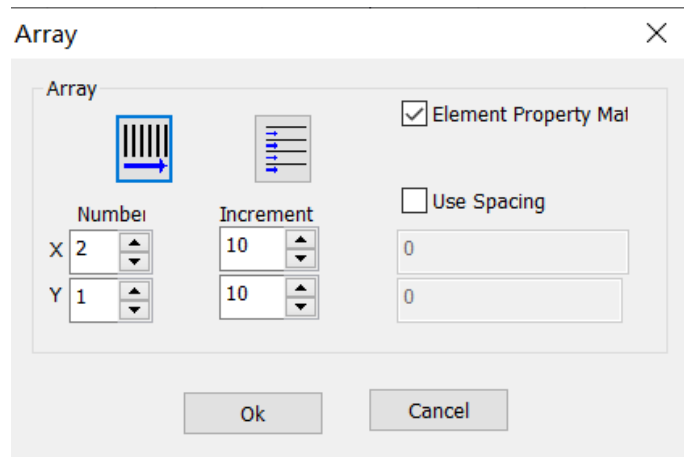

Fig. 2-16 Array Operation Dialog Box
**Array** : copies the current object and arrange them to the destination by dealing with the dialog box as shown in Fig. 2-16:
**Array** : Copy the current object to the specified location, and the operation dialog box is as shown in Figure 2-16: